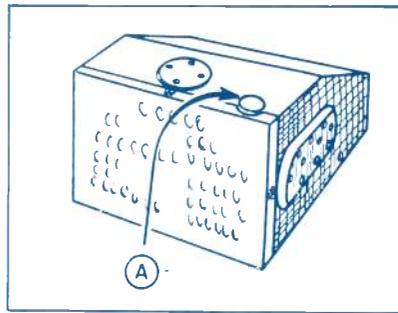
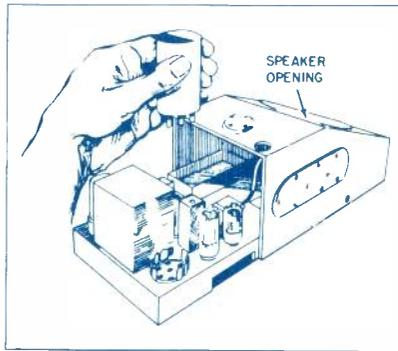

Figure 3. Vibrator Location
Figure 4. Changing Vibrator
STEP 4. Refer to Column I in reference chart. The positive (+) or negative (-) signs indicate which terminal of the battery in the car or truck is connected to the chassis or ground. Locate hole above vibrator at rear of case (refer to Fig. 3), and observe whether top of vibrator appears red at opening "A". If the red color is visible, the receiver is ready for installation in any car or truck with the positive battery terminal connected to chassis or ground. Receivers shipped from the factory have the vibrators in this position.
STEP 5. For those cars or trucks with the negative (-) terminal of the battery connected to chassis or ground, the vibrator polarity must be changed. To change the polarity of the vibrator to enable operation with the negative battery grounded, remove the eight (8) hex-head screws holding the chassis to the case. Slide the chassis out of the case and remove the vibrator from its socket and rotate 180 degrees and reinsert in its socket. Refer to Figure 4. In this position the red color will not appear in opening "A", Figure 3.
- (A) Remove speaker from the case by removing the four mounting screws.
- (B) Remove speaker leads from the speaker lead connectors. Extend speaker leads by pulling out slack wire which is coiled up near the transformer.
- (C) Route speaker leads through holes in speaker opening on the front of the case.
- (D) Locate speaker baffle board which is printed on the carton filler and cut out cross-hatch area.
- (E) Determine grill opening size of the car or truck.
- (F) If the available grill opening is approximately 5" x 7" cut out baffle board "A". If the opening